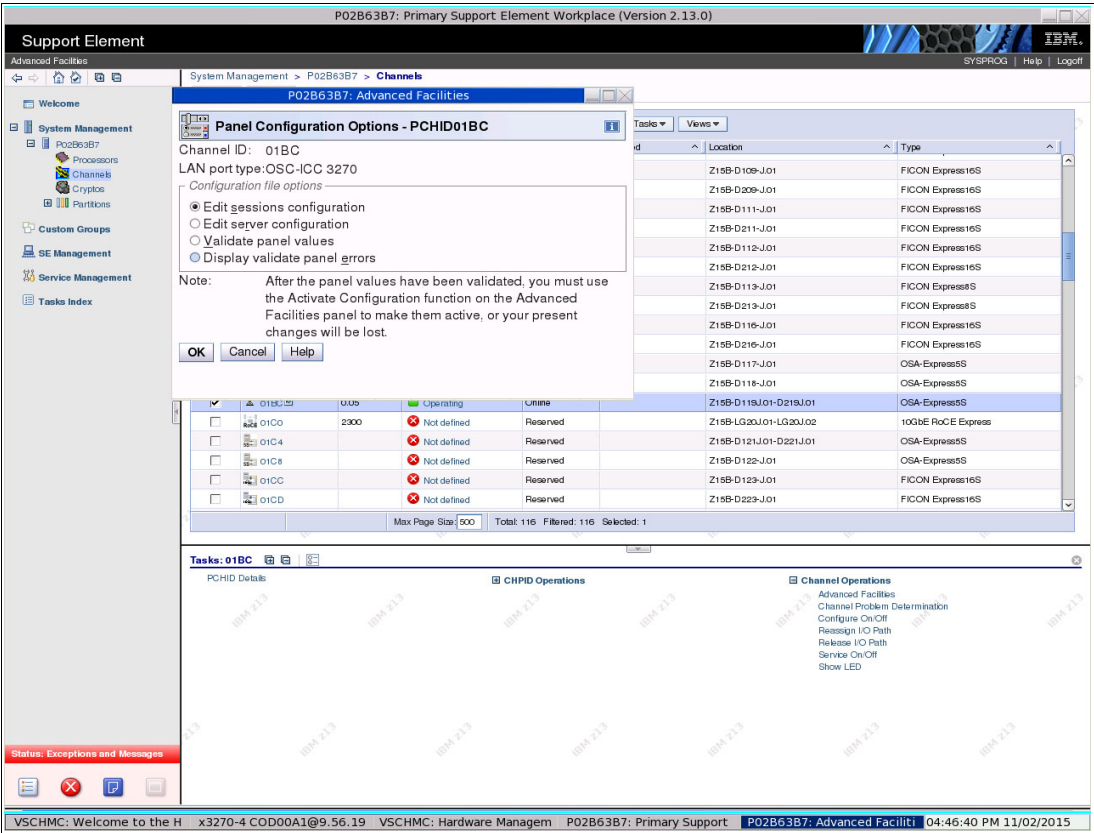

Figure 7-9 Editing session configuration
4. We select **OK**. The Panel Configuration Options panel displays, as shown in Figure 7-9.